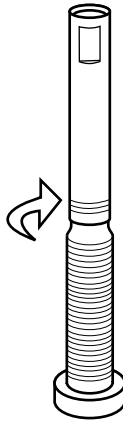

Figure 49. Screw inline valve extender into stem.
3. Screw inline valve extender into valve stem clockwise (Figure 49).